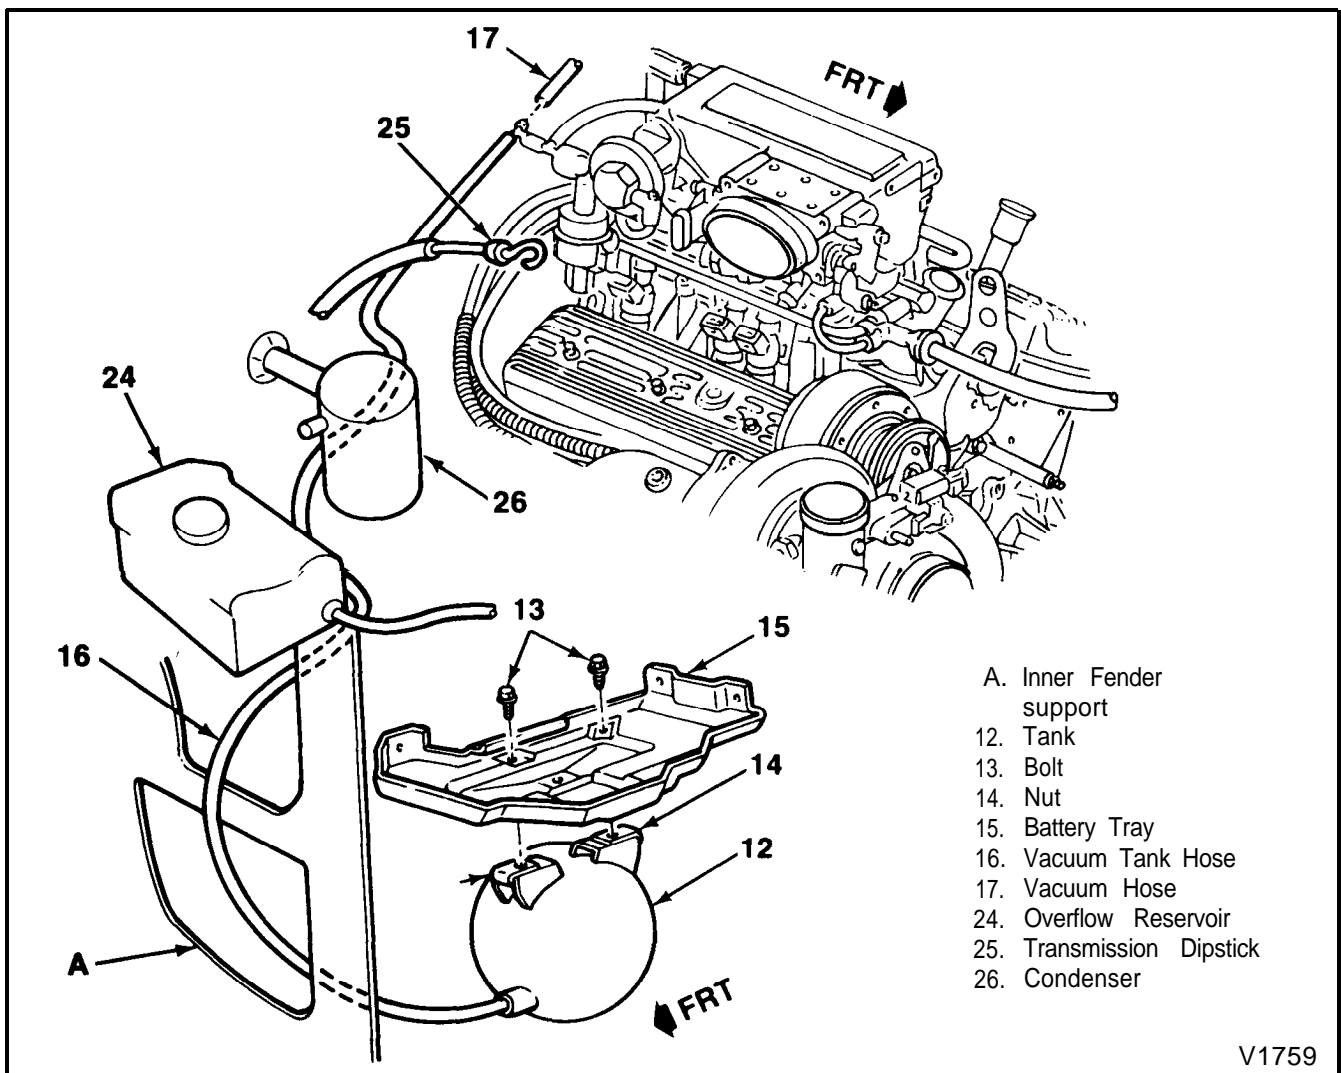

Figure 3 - Vacuum Tank and Lines
### Remove or Disconnect (Figure 3)
### Install or Connect (Figure 3)
For vacuum line routing, refer to Figure 3. The vacuum tank hose (16) is routed along the right side of engine to vacuum tank (12) under battery tray (15). The vacuum hose (17) is routed into cowl with wiring harness.